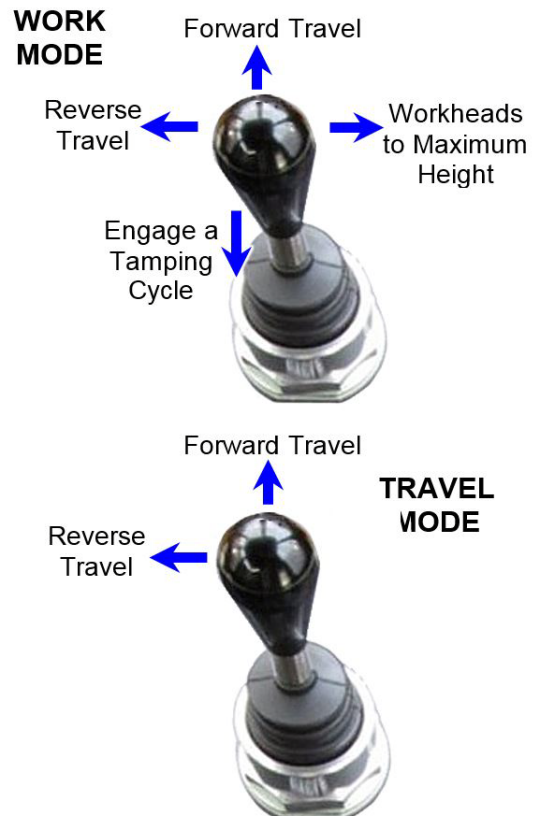

Figure 5-15: Joystick Motions
(3) LEFT TRAVERSE MODE - A 3-position switch used to precisely center the left workhead for installing locks.
(4) RIGHT TRAVERSE MODE - A 3-position switch used to precisely center the right workhead for installing locks.
(5) WORKHEAD SELECT - A 3-position switch used to select the LEFT, RIGHT or BOTH workheads.
(6) INDEX SELECT - A 2-position switch use to select AUTO or MANUAL mode.
(7) Joystick - A 4-way Work Control Joystick. Refer to Figure 5-15.